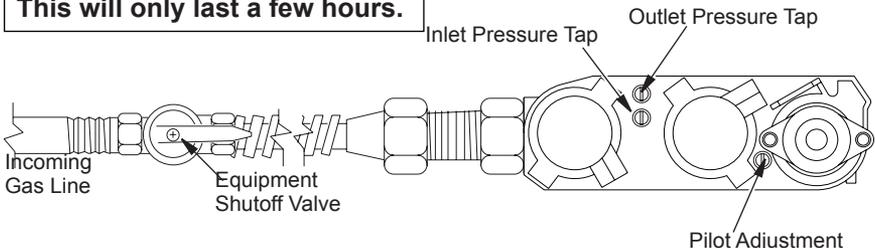

Figure 30 - Turning Equipment Shutoff Valve to the OFF Position
5. Turn equipment shutoff valve clockwise ↻ to the OFF position (see Figure 30). Do not force.
6. Wait five (5) minutes to clear out any gas. Then smell for gas, including near the floor. If you smell gas, STOP! Follow "B" in the safety information. If you don't smell gas, go to the next step.